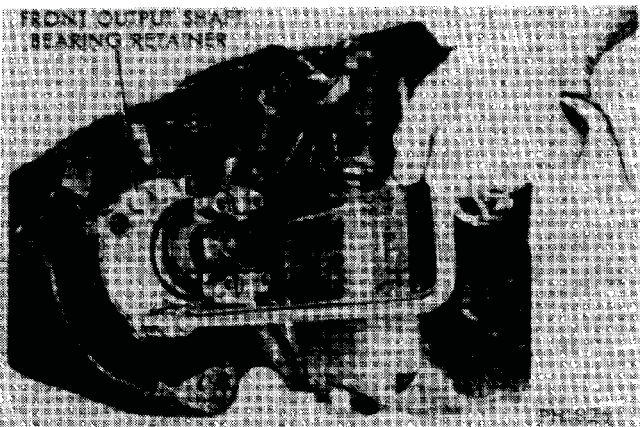

Fig. 11—Removing Bearing Retainer Screws
(4) Remove front output shaft bearing retainer bolts (Fig. 11). Remove retainer. Discard gasket.
(5) Using hoist or other suitable lifting device, posi-